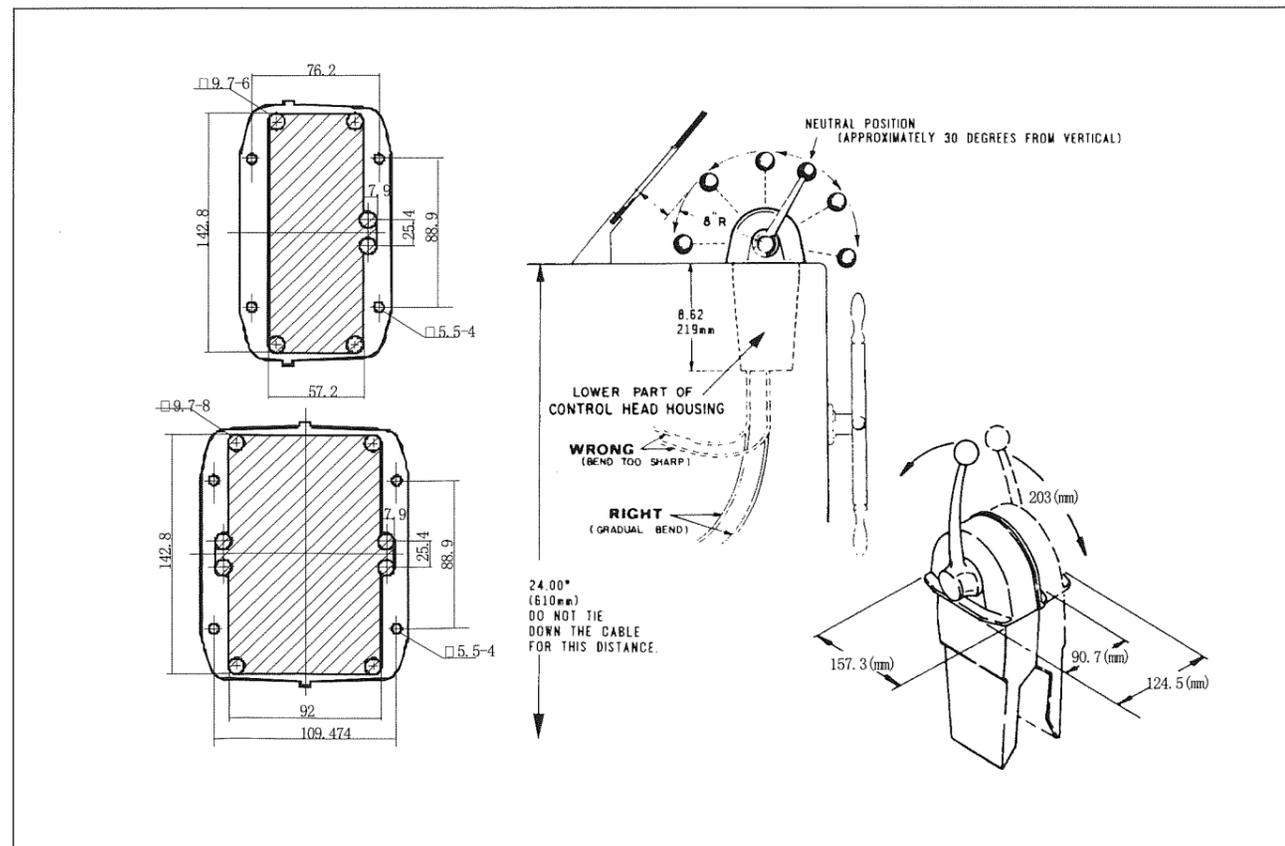

Figure 1 Control Measurements
- 1.1 Allow adequate clearance for hand lever swing (forward and reverse positions). See Figure 1 for control dimensions.
- 1.2 Allow adequate clearance under the console for the cables. Refer to Figure 1.